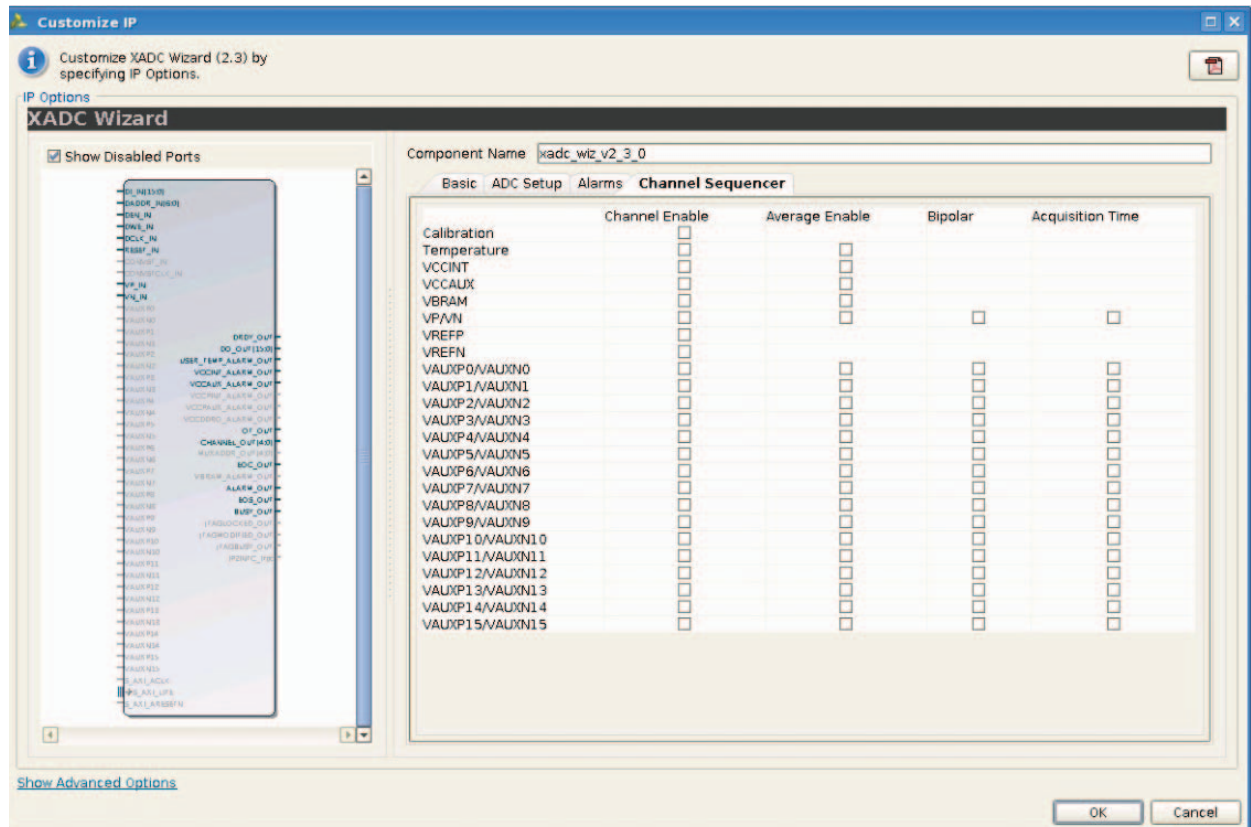

Figure 4-6: Channel Sequencer Tab
- **Channel Sequencer** – Choosing this mode, allows you to select any number of channels to monitor. The channels to be used for this mode can be selected on Figure 4-6, page 44.
Channel Sequencer (Figure 4-6) is used to configure the XADC sequence registers when the XADC is configured in Channel Sequencer, Simultaneous sampling, or Independent ADC mode. All the possible channels that can be included in the sequence are listed in the table spread across Figure 4-6 of the Wizard: